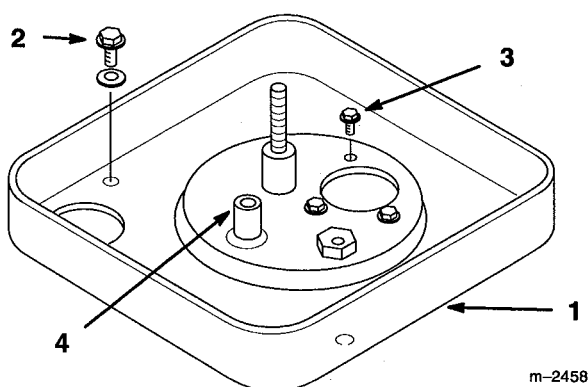

Figure 23
3. Remove the air filter base mounting bolts and screws. Slide base off breather tube (Fig. 23).
7. Install air filter base and assemble air filter (Fig. 23).